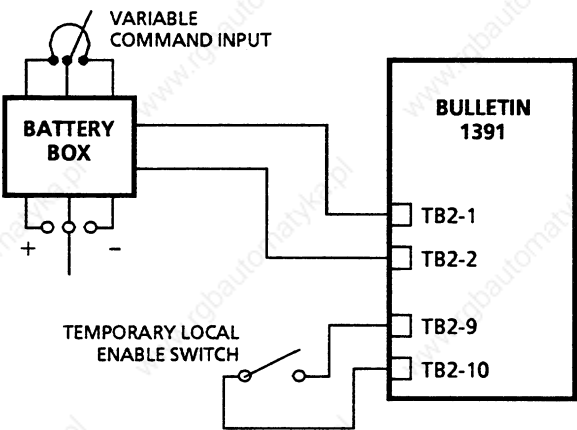

Figure 7.1 – Local Control Connections
- 8. The wires connected to terminals 9 and 10 of TB2 must be marked and removed to allow for local operation of the Enable circuit. Connect a suitable temporary switch between these terminals and insulate the switch connections. See Figure 7.1.
- 9. The wires connected to terminals 1 & 2 of TB2 (Velocity Command Input) must be marked and removed. A ± 10 V DC local control (battery box) is to be connected to these terminals. See Figure 7.1.